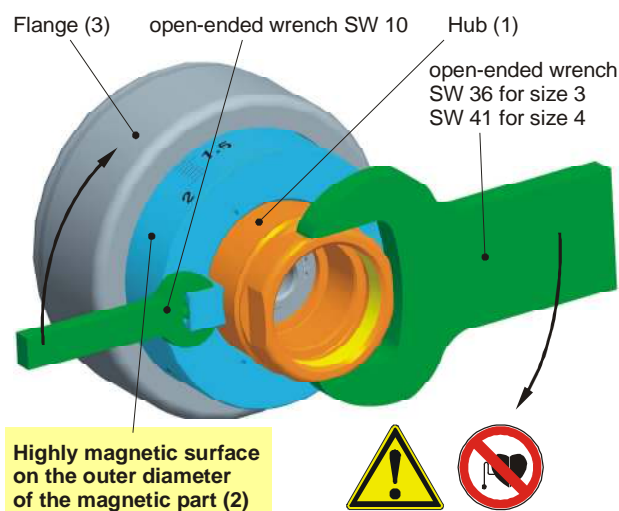

Fig. 4
The ROBA[®]-contitorque has a highly magnetic surface on the outer diameter of the magnetic part (2) (see Fig. 4 on page 4). In order to prevent injury to personnel and damage to the clutch, metal objects must not be brought near this surface.
The output elements are screwed into the hub (1) fine thread (inside thread). To hold it up, we recommend using an open-ended wrench SW36 for Size 3 or SW41 for Size 4, which engages into the radial bores of the hub (1), as shown in Fig. 4 on page 4. The open-ended wrench is not included in delivery.